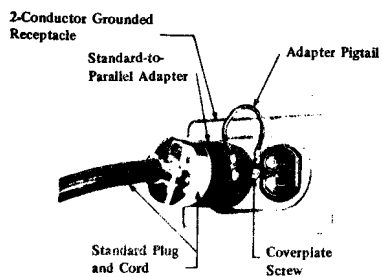

FIGURE 6. Grounded 2-conductor Receptacle.
**4.03 2-Wire Receptacles (Grounded Outlet Box)**—Where it is known that a building is wired with metallic conduit, armored cable, or nonmetallic sheath cable with a grounding conductor, the outlet boxes may be grounded. Under these conditions and only after it has been found that the boxes are grounded, the grounding pigtail terminal on the adapter or plug may be fastened under the coverplate screw of the receptacle. See Figure 6. In grounding to a 2-conductor receptacle (Figure 6), connect pigtail to coverplate screw before inserting adapter into the receptacle.